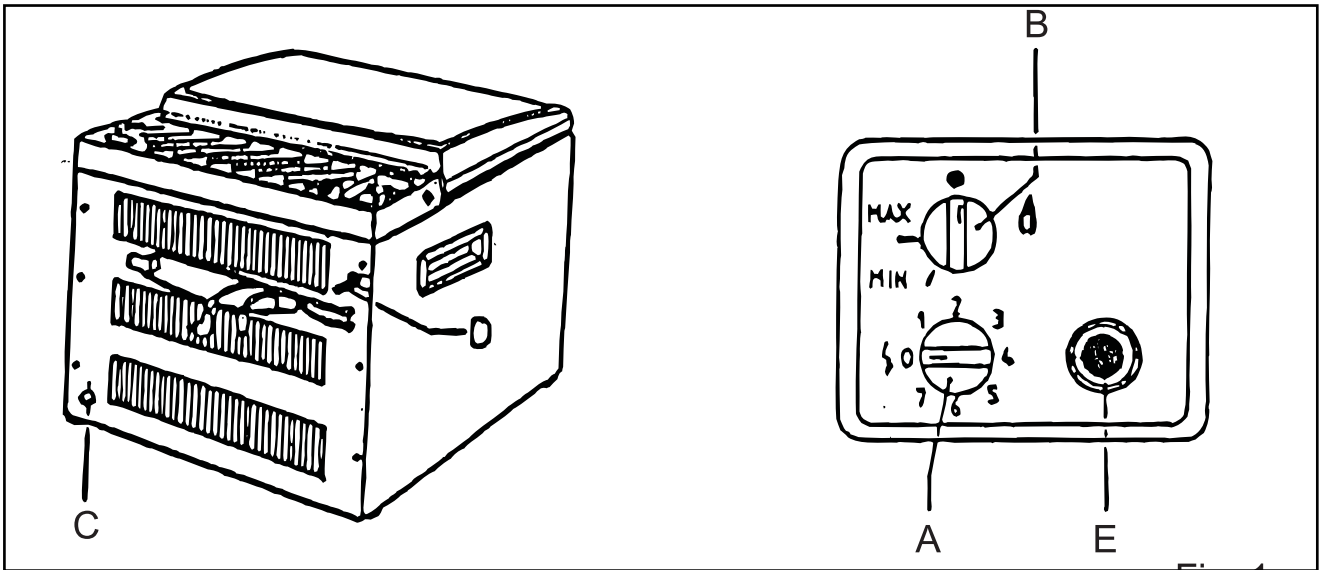

Fig. 1.
10. Gas equipment system (Fig. 1)
11. Igniting the gas burner (Fig. 1)